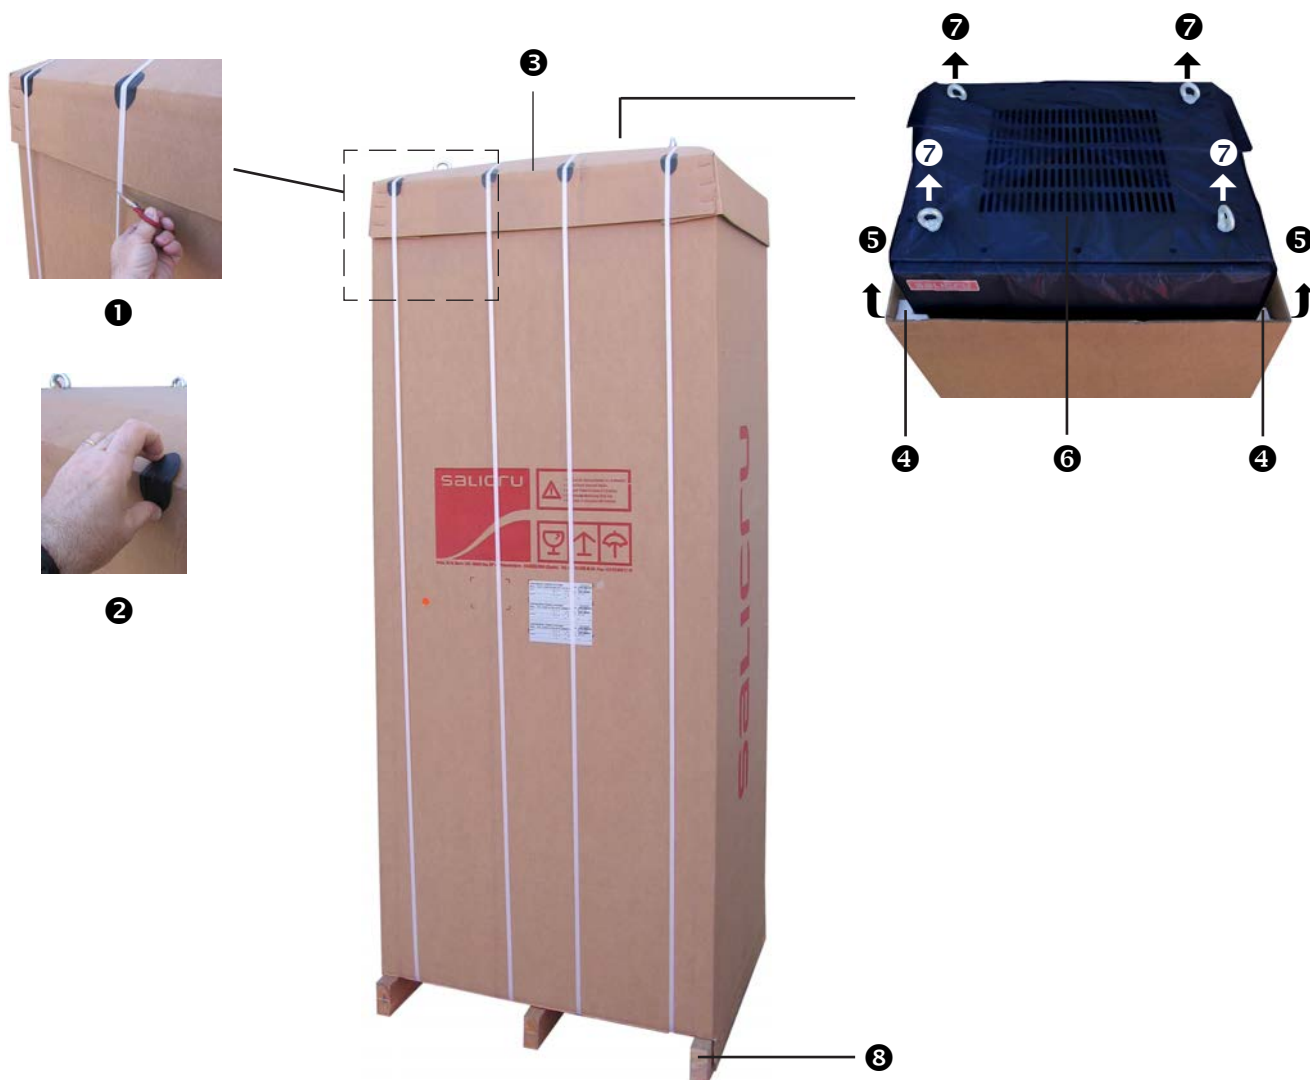

Fig. 17. Unpacking process of system in a cabinet.
- The unpacking of the equipment do not entail any problem and it is described the procedure for system in a cabinet only, because it is the most complex due to its volume (see Fig. 17). Respect the following stated procedure: